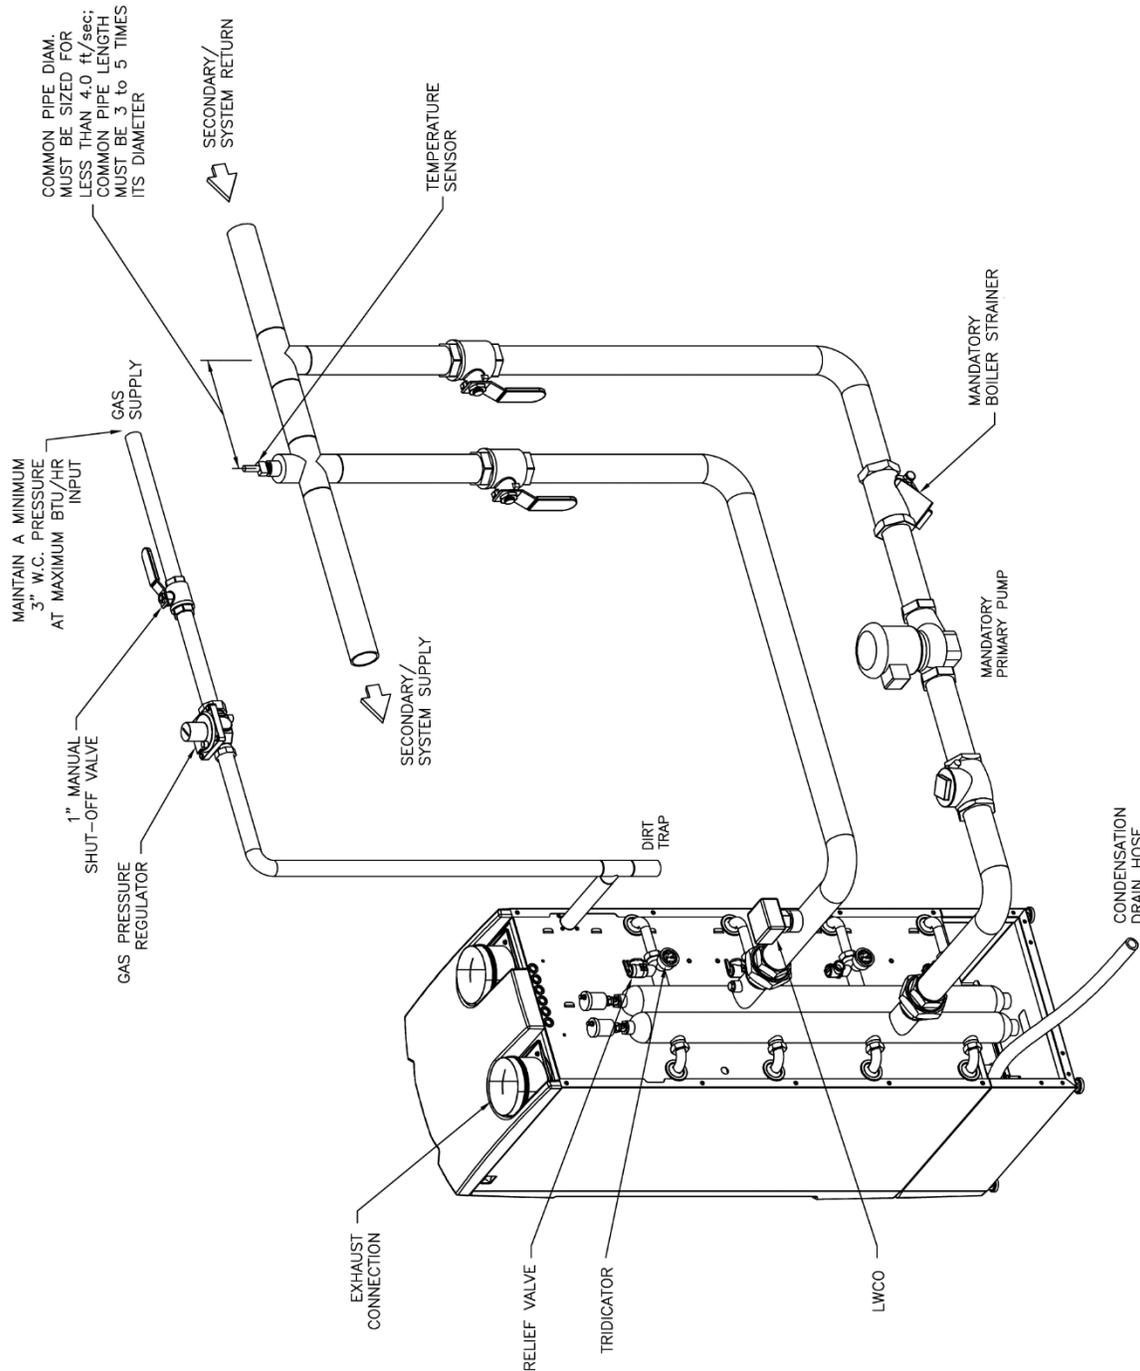
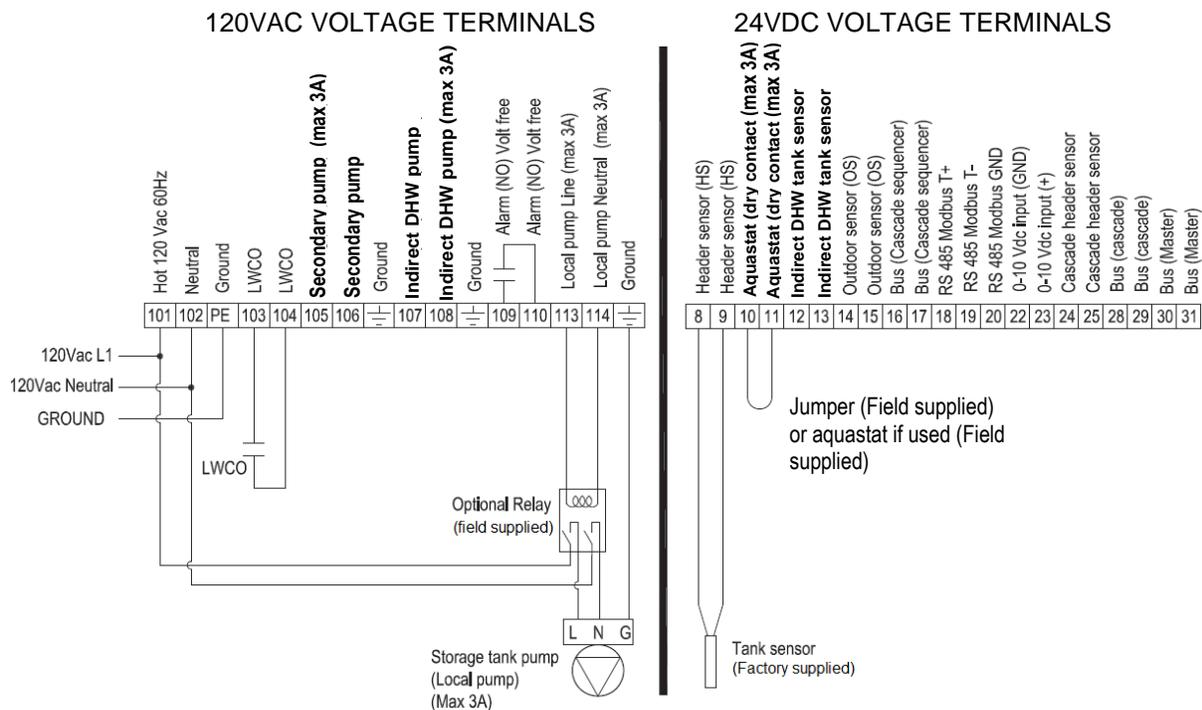
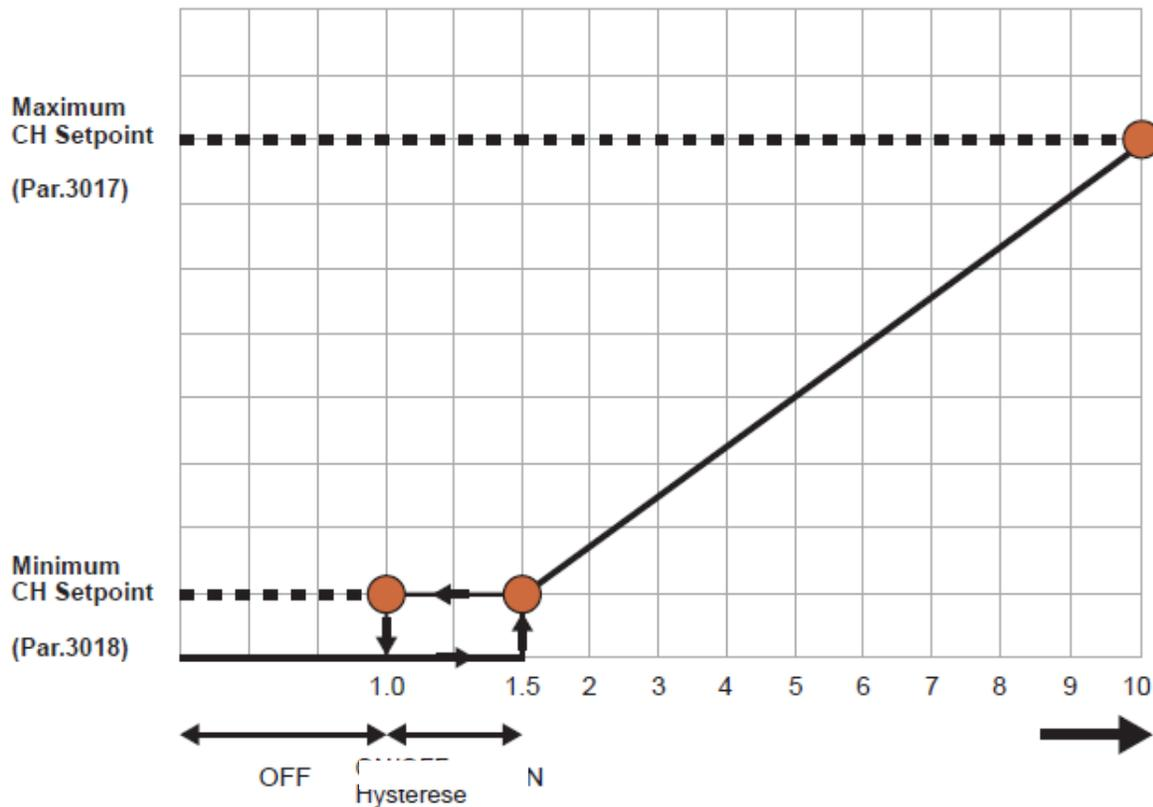

Figure 4-5: AM Boiler Piping Example (Models AM750/1000 Shown)
Figure 5-3: Water Heater Electrical Junction Box Connections (with Direct Storage Tank)
Figure 5-4: 0-10 VDC Analog Input Algorithm
- **Unions:** Field supplied. Install Unions as shown on Figures 4-5 and 4-7, recommended for unit serviceability.
To connect a central heating pump on the secondary loop, see Figure 4-7, and to electrically connect the pump to the boiler, see Figure 5-3.
See Figure 4-5, for recommended piping for the AM Series water heater. Refer to Figure 5-3 to wire the water heater pump.
The AM Series models 500, 750 and 1000 are factory supplied with a Communications Module (the 399 model can be equipped with one as an option). This allows driving the appliance via a 0-10 VDC analog input. To do this, you must connect the 0-10 VDC supply between terminals 22 and 23 (see Figure 5-3) in the electrical junction box, and the CH mode (parameter 2003 in the Installer Menu per Section 9.16) must be set to 4 (four). When configured this way, the heater supply temperature is controlled by the analog input 0-10 VDC as shown in Figure 5-4 where:
2. Open the boiler electrical junction box cover and connect the leads from the indirect water **heater pump** to terminals “107” and “108” (See Figure 5-3). The pump must not be higher than 2 amps current absorption.
3. Connect the indirect water heater temperature **sensor** to terminals “12” and “13” (See Figure 5-3). The sensor must be placed into the indirect water heater in a way that can detect its water temperature (follow the indirect water heater instructions).
6. The storage tank pump must be connected to terminals “113” and “114” of the electrical junction box (See Figure 5-3) (a field supplied pump relay must be installed if the pump current draw is greater than 3 amps).